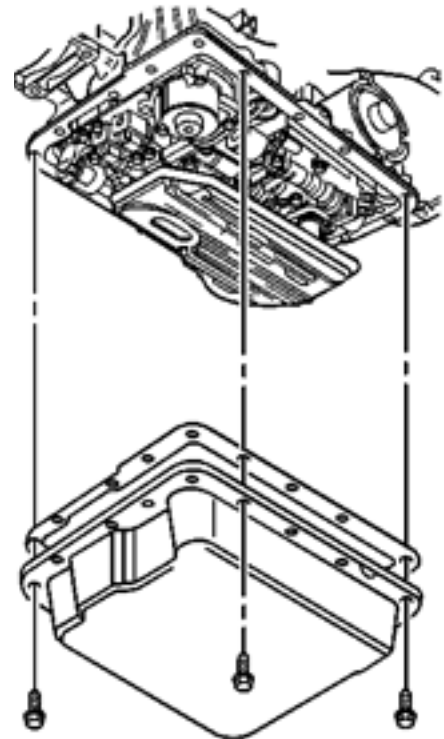

Figure 8
5. Install the oil pan bolts and tighten alternately and evenly to 11 Nm (97 lb in). **Reference Figure 8.**